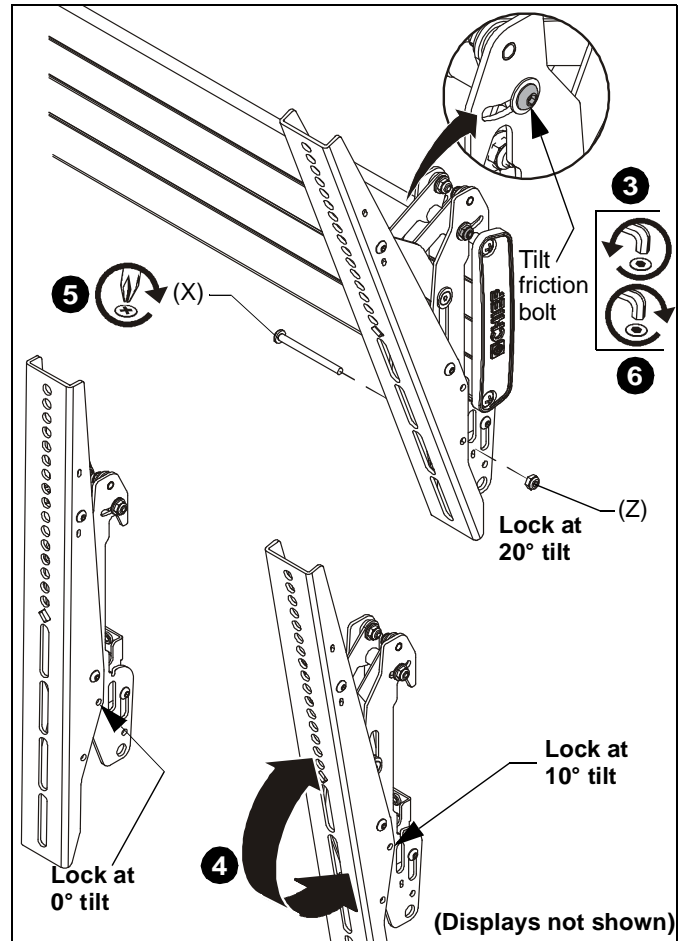

Figure 13
- If necessary, loosen button head tilt friction bolt (located on side of interface bracket). (See Figure 13)
- Adjust tilt as required. (See Figure 13)
- The tilt may be locked at 0°, 10° and 20° using one 10-24 x 2-1/4" Phillips head screw (X) and one 10-24 lock nut (Z) per interface bracket. (See Figure 13)